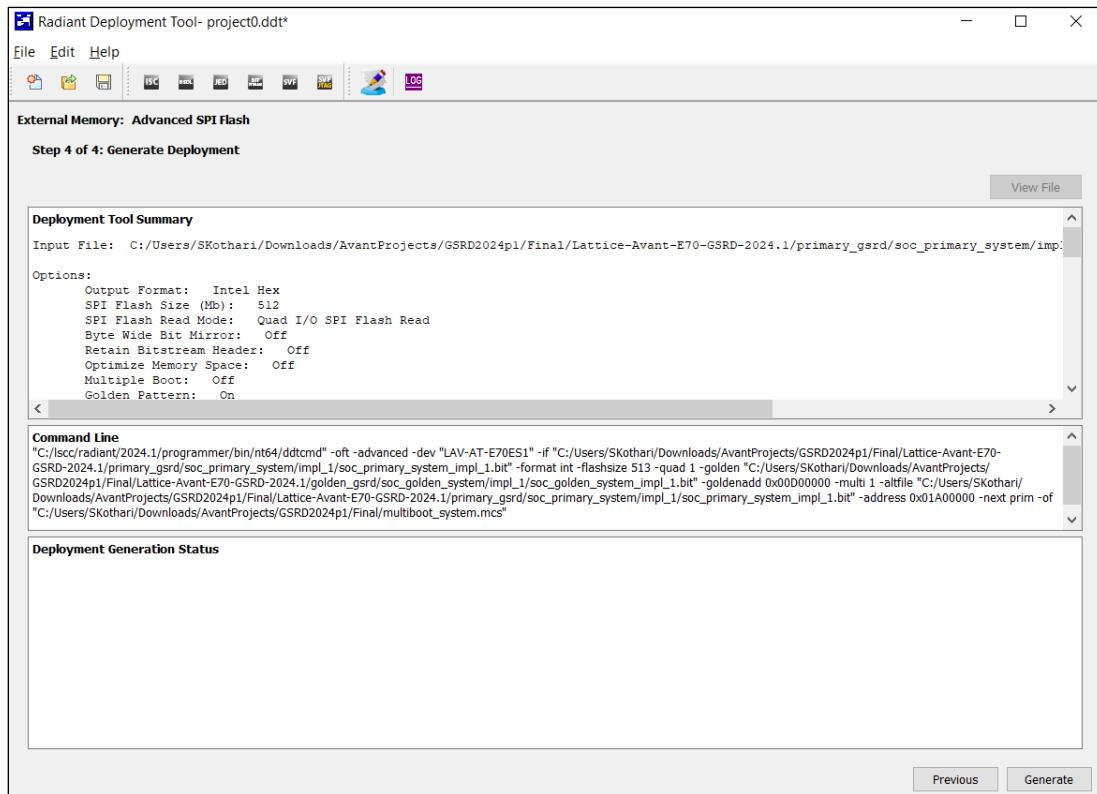

Figure 8.67. External Memory Step 4 of 4: General Development
10. In Step 4 of 4: Generate Deployment, click **Generate** at the bottom right corner as shown in Figure 8.67.